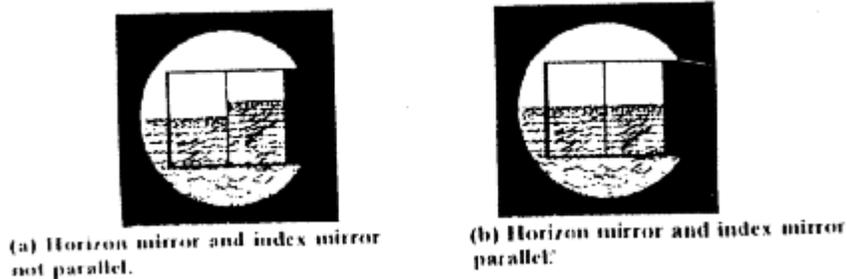

FIGURE 8-6 ADJUSTING THE SEXTANT - INDEX ERROR
- c. INDEX ERROR ADJUSTMENT - The last step is to remove the index error so that the index and horizon mirrors are parallel to each other. Set the Sextant to zero degrees and zero minutes and look at the horizon or a straight horizontal line. With the Sextant at your eye, turn the top screw on the horizon mirror until the actual horizon or straight line and the reflected horizon or straight line now form one straight line (refer to Figure 8-6).